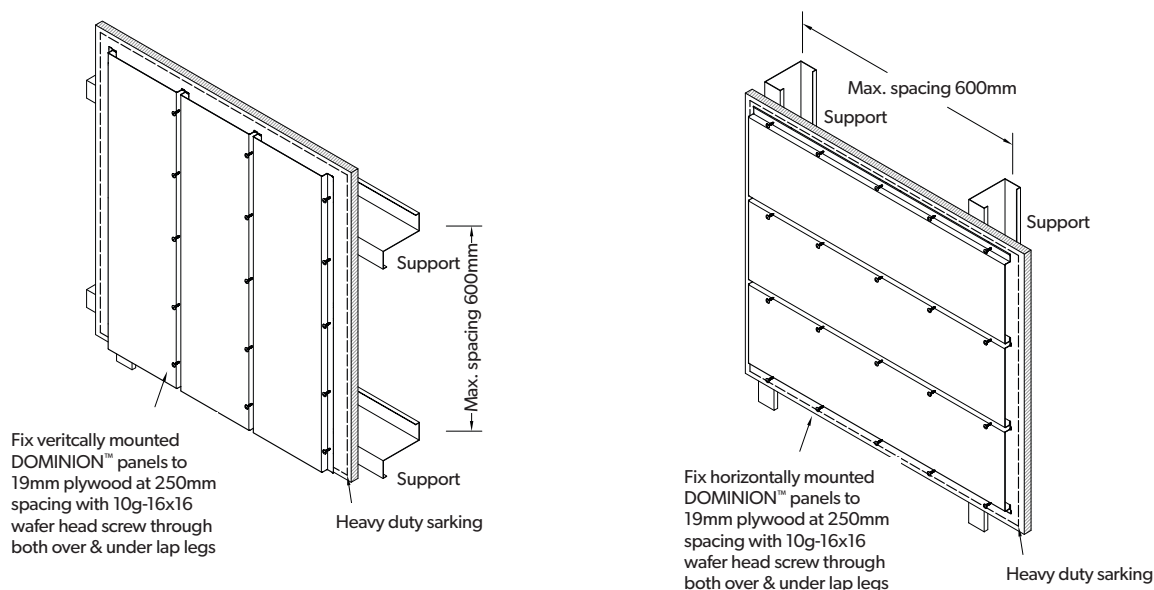

Figure 12.2.5:
3. The membrane must be hung and sealed at the top. It must be free of ripples and puckers with holding battens between the 40mm vertical battens securing it to the supporting member. Figure 12.2.5.